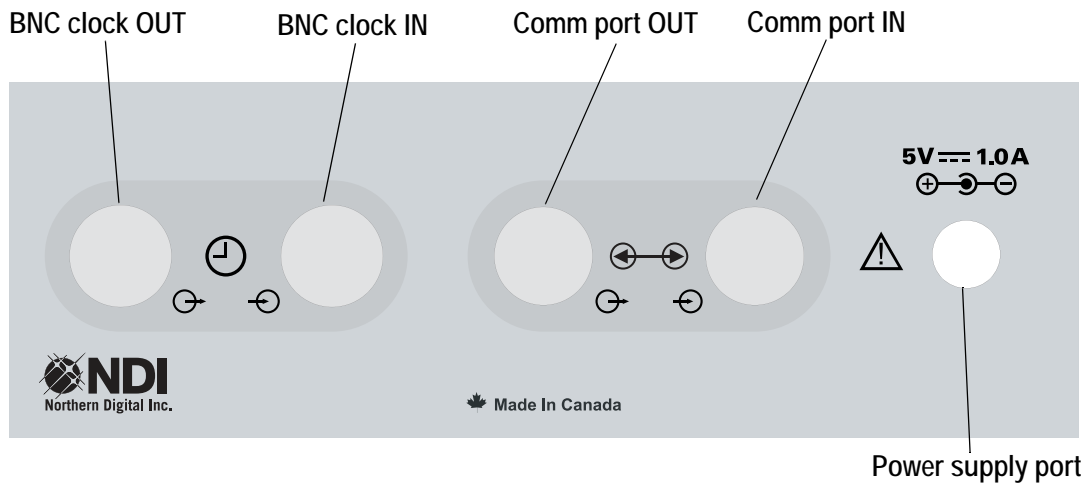

Figure 19-2 ODAU Data Acquisition System - Back Panel
2. Plug one end of the communication cable, included with the ODAU, into one of the communication ports on the back of the ODAU. See Figure 19-2 on page 123.
2. Plug one end of the communication cable into one of the communication ports on the first ODAU. See Figure 19-2 on page 123.
6. Connect one end of the coaxial cable (BNC connector) into the clock IN connector on the first ODAU. See Figure 19-2 on page 123.